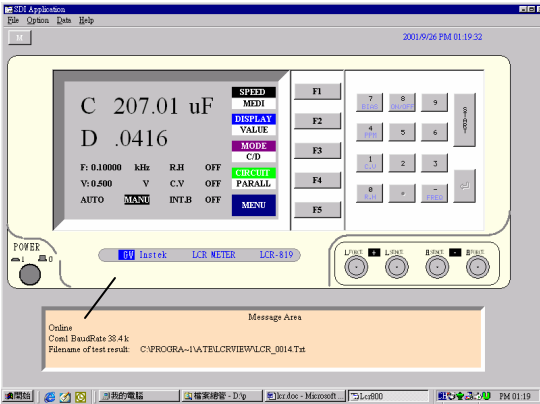

Figure 9-2
- 4) Check the contents of the Message area under the LCR-VIEW to make sure the Online Procedure has been well done. If not, select the setting items above the LCR-VIEW to change the Com port and make connection again until it is online. Please refer to Figure 9-2, 9-3, 9-4.